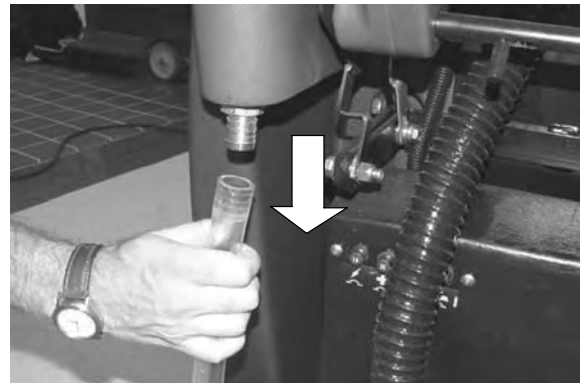

FIG. 21
1. Pull clear hose off hose barb at rear of machine and drain solution into floor drain or bucket (Figure 21).